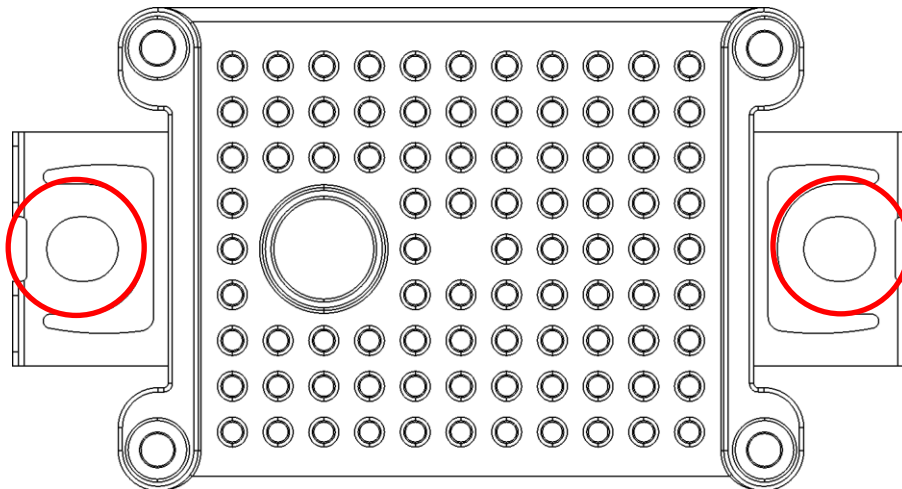
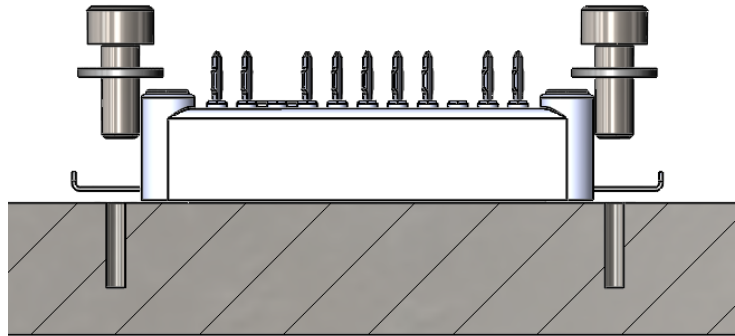

Figure 20. M4 screw mounting locations on FM module
Figure 21. Mounting Method 1
The module is attached to a heatsink using two M4 screws with the mounting locations as shown in Figure 20. When mounting the module, it is imperative that the module's mounting surface remain in full contact with the heatsink, as shown in Figure 21. If the module rocks to any one side during mounting, it is recommended that the user clean off the TIM and re-apply a new TIM print. The recommended mounting torque is 2 – 2.3 Nm. To ensure proper seating of the module while mounting, the user should choose one of the following methods to mount the module after centering the mounting tabs over the mounting holes. The mounting screw requirements are provided in Table 3.
**Method 1:** Insert both screws and tighten them simultaneously (Figure 21).